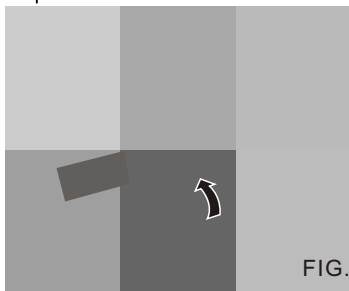

FIG.21
1. Remove the filter by pulling down on the indent of the filter door on the front of the unit. (See FIG.21)